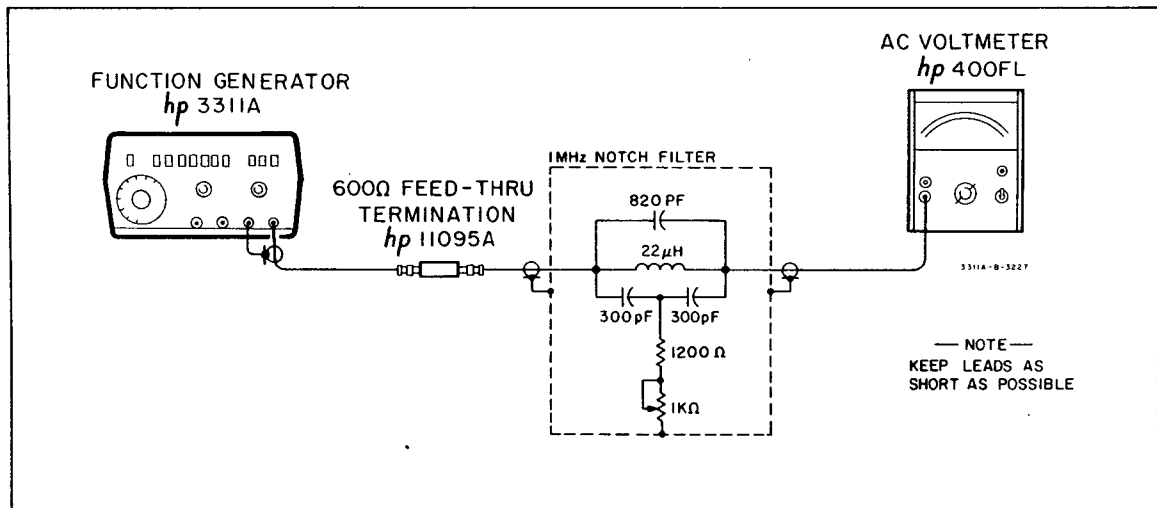

Figure 5-4. 1 MHz Distortion Test.
d. Connect the equipment as shown in Figure 5-4. The components for the 1 MHz notch filter are listed in Table 5-1.